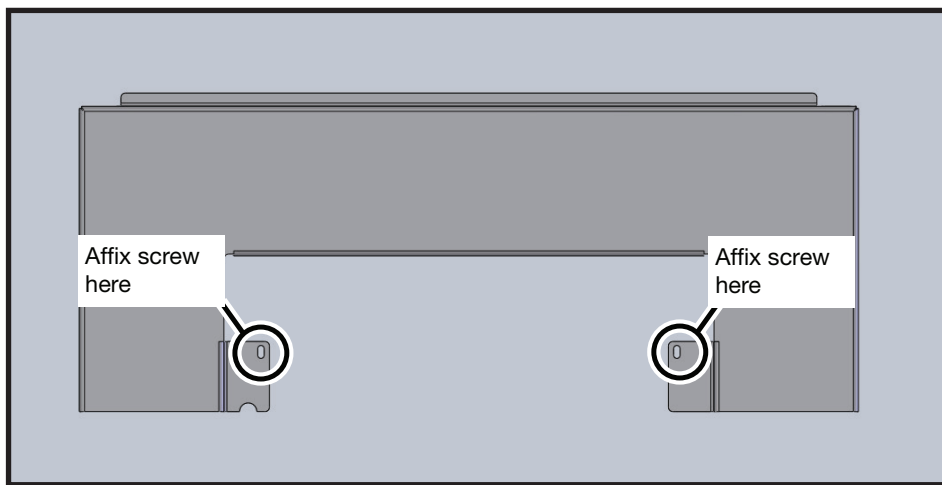

Figure 11: Screw points for lower panel.
8. Mount the lower rear panel against the rear wall of the firebox and affix to the wall using the two screws previously removed from the air channel (Figure 11).